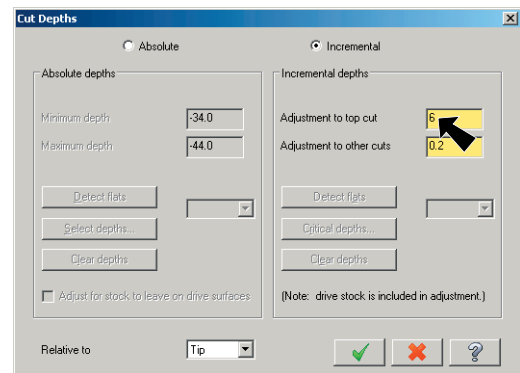

Fig. 79
Step 20. Set **Adjustment to top cut 6** and click OK  **Fig. 79**